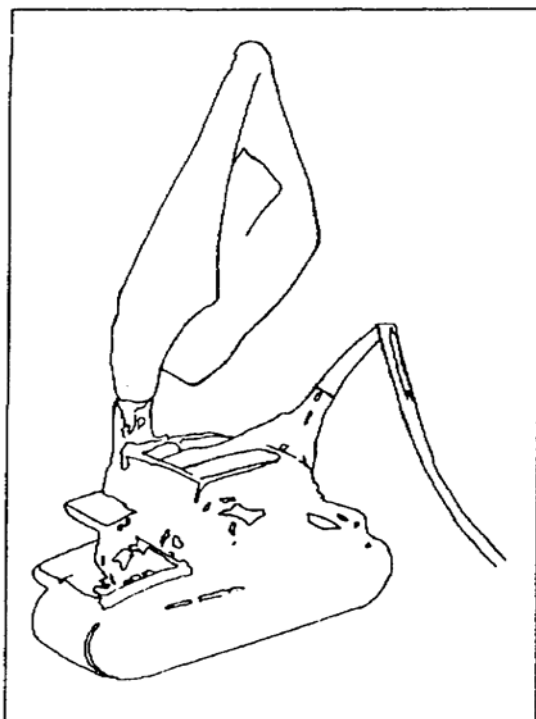

Figure 3-14. Portable belt sander (with dust bag)
(2) Portable belt sander. Use a portable belt sander (Figure 3-14) for finishing work and for fast and efficient sanding of wood surfaces. The sander uses an endless, abrasive-coated belt that runs over two flat pulleys. You will need to use both of your hands to operate the sander, and you must use extreme caution to ensure that the sander does not cut the wood surface too deeply. Occasionally clean the sander with compressed air.